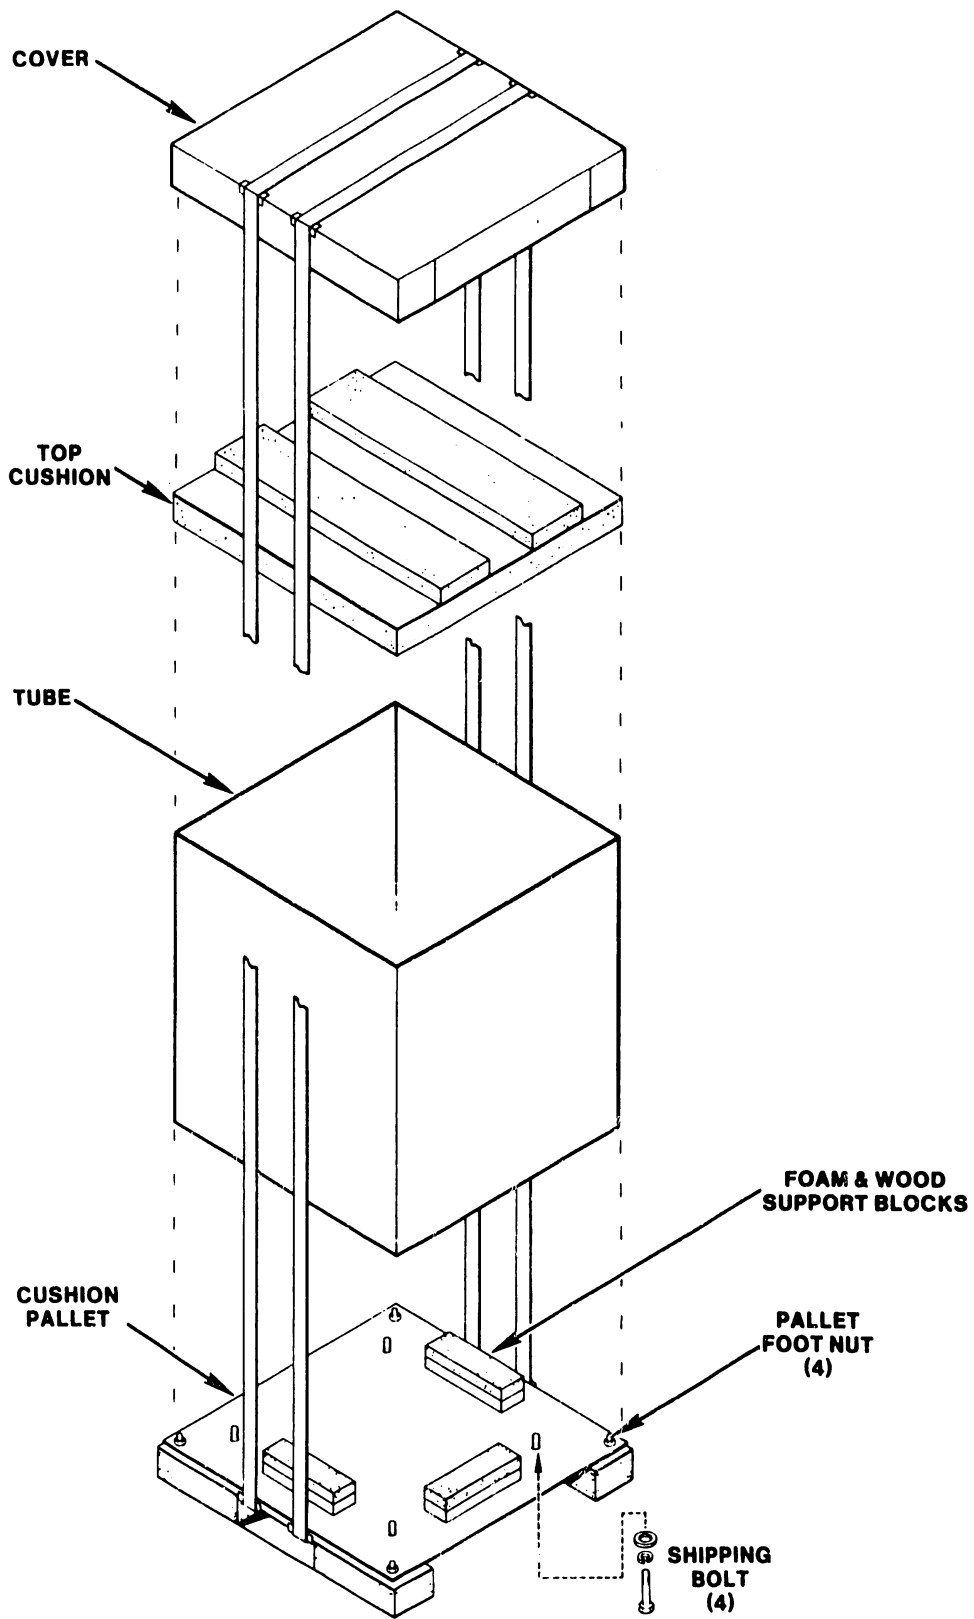

Figure 4-1. VS-85/85-H Shipping Carton.
3. Remove the top cover, corrugated/foam top cushion, and outside tube. (See figure 4-1.)